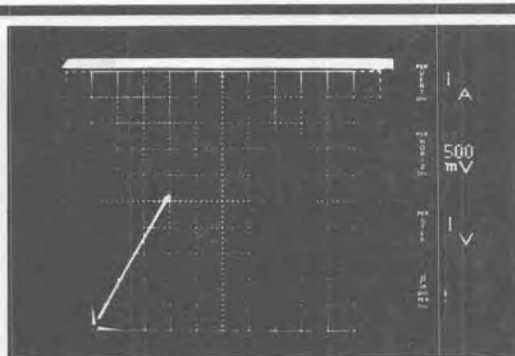

Figure 9. Drain-Source Resistance ( $R_{DS(on)}$ )
7. Connect the device using the LEFT/RIGHT switch and raise the VARIABLE COLLECTOR SUPPLY voltage until the desired value of drain current is obtained.  $R_{DS(on)}$  is obtained from the trace by reading the peak values of current and voltage (see Figure 9).  $R_{DS(on)} = V_{DS} / I_D$ .